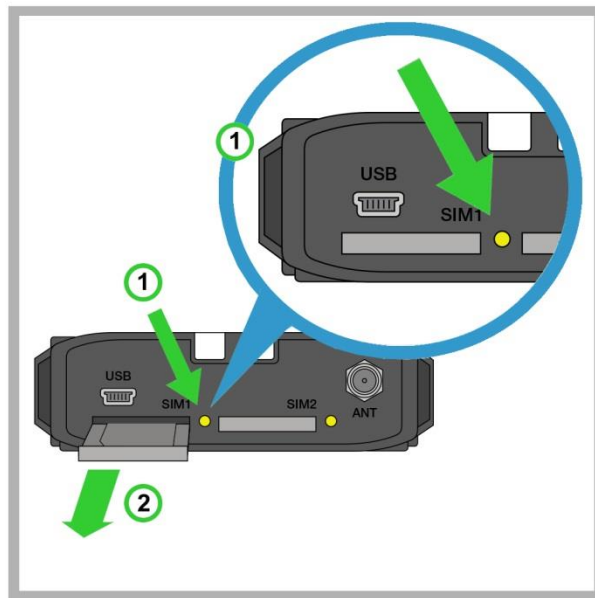

Fig. 3.1 Removing the SIM Card Tray from the Modem
1. Press the button near the SIM card tray using a thin object (see 1 in Fig. 3.1)
2. Remove the SIM card by pulling the tray (see 2 in Fig. 3.1).